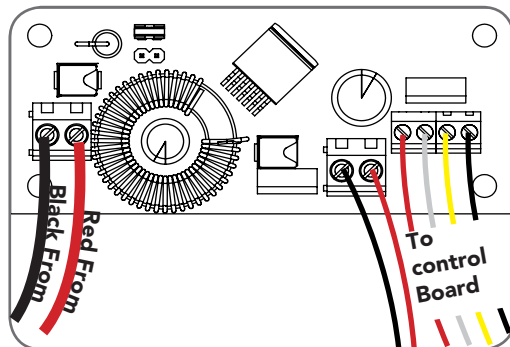

Fig 07
2. Connect the **red wire** to the Charger Board's "**SOLAR+**" connector, and the **black wire** to the "**-SOLAR**" connector (Fig. 07).
5. Connect the **red wire** to the Charger Board's "**BAT+**" connector, and the **black wire** to the "**-BAT**" connector (Fig. 07).